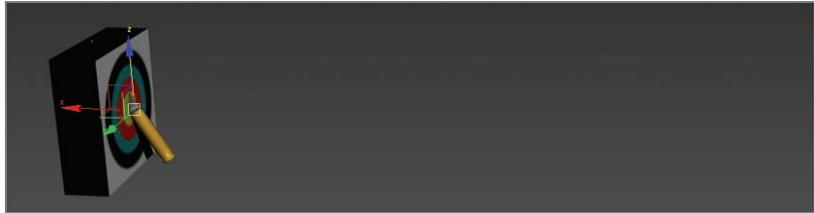

FIGURE 6.1 Move the knife to the target at frame 30.
2. Move the knife to the Target object, as shown in Figure 6.1.